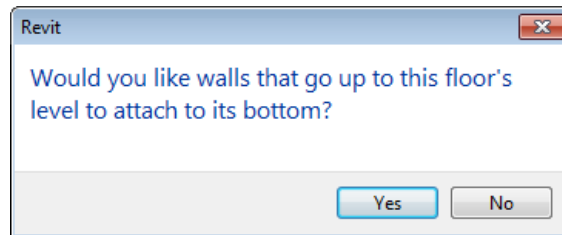

Figure 7-29
- If there are any walls below the slab, an alert box opens as shown in Figure 7-29, and the elements are highlighted in the project. Click to constrain the walls to the slab so that the height of walls will change when the slab moves in elevation. Otherwise, click .